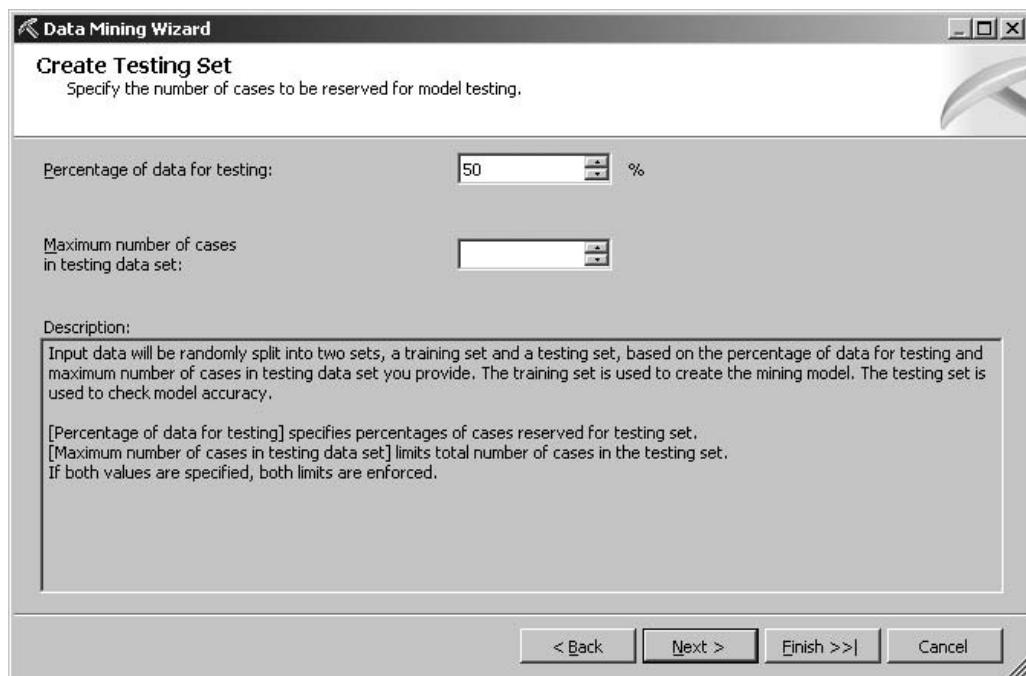

Figure 14-10 The Create Testing Set page of the Data Mining Wizard
38. Change the Percentage of data from testing to **50%**. The Create Testing Set page appears as shown in Figure 14-10.